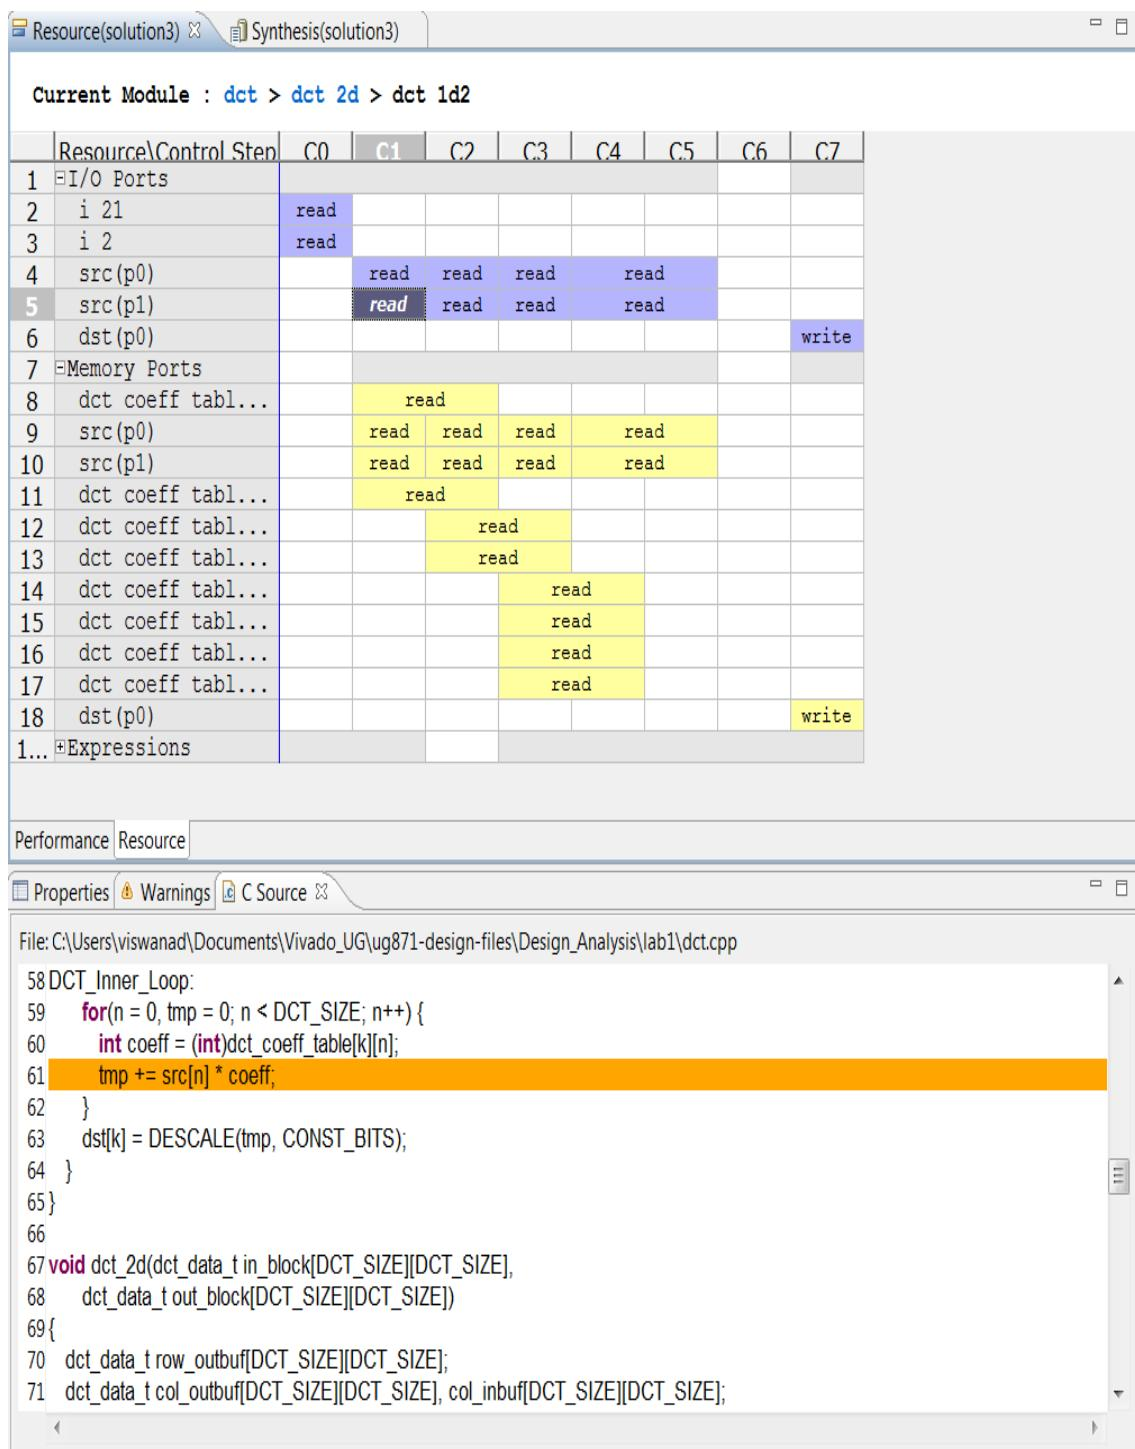

Figure 6-25: Memory Resource SRC and Source Code
17. Right-click and select **Goto Source** to see the view shown in Figure 6-25.
Figure 6-25 shows this read on the `src` variable is from the read operation inside loop `DCT_Inner_Loop`. This loop was automatically unrolled when `DCT_Outer_Loop` was pipelined and all operations in this loop can occur in parallel (if data dependencies allow).
The eight reads are being forced to occur over multiple cycles because the array `src` is implemented as a block RAM in the RTL and a block RAM can only allow two reads (maximum) in any one clock cycle. In Figure 6-25, the read operations take 2 clock cycles: a cycle to generate the address for the block RAM and a cycle to read the data. Only the launch (address generation cycle) is shown because it overlaps with the operation in the next clock cycle.